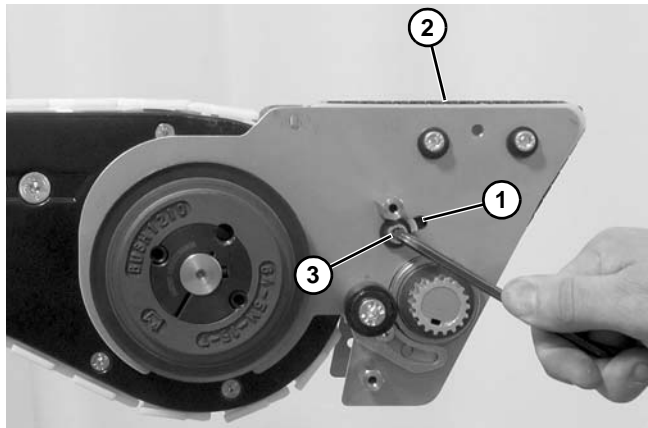

Figure 144
- Slide idler assembly within slot (Figure 144, item 1) only enough to remove excess slack from belt (Figure 144, item 2). Tighten socket head screws (Figure 144, item 3).